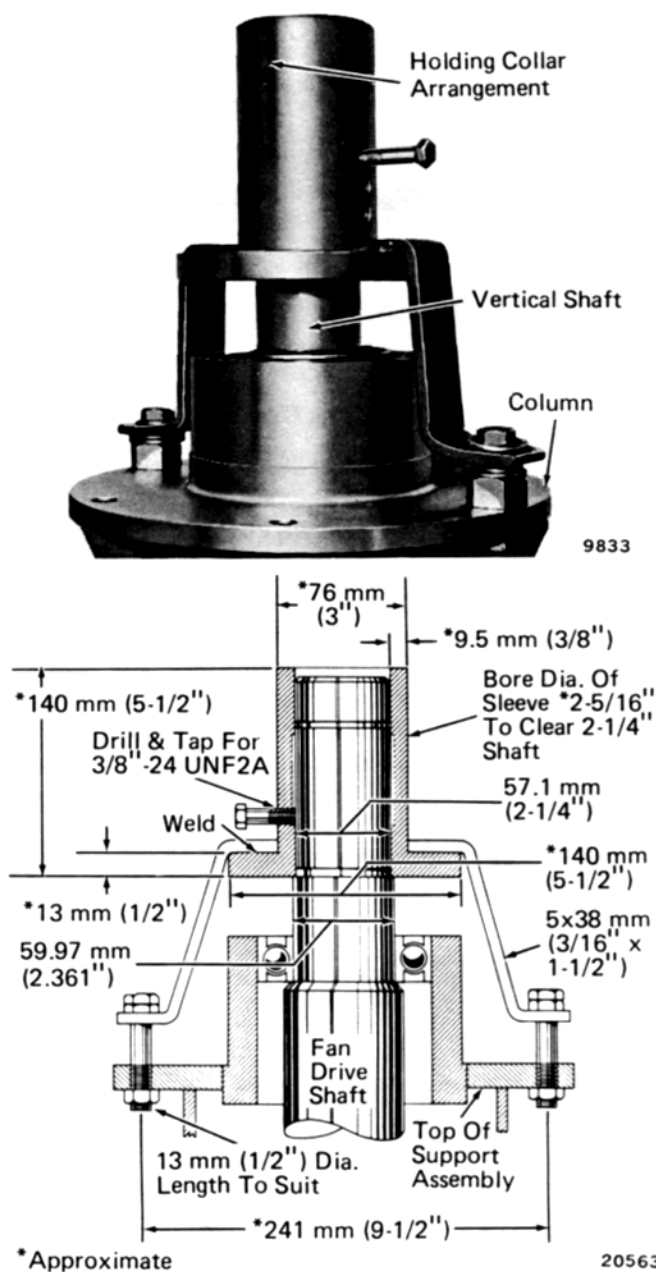

Fig. 9 - Fan Drive Shaft Collar Arrangement
7. Apply a new seal (56) to the oil seal housing (57) and install the completed assembly to the gear housing.
8. Check the fan support assembly (62) bore in the gear housing to see that it is clean and smooth. Apply the shim set (58) previously removed, if in good condition, or replace with a set made to the same thickness.
since it may be necessary to vary the thickness of shim sets (46) and (58) to maintain correct gear backlash. The gear backlash should be held within the limits etched on the gear set, which is within  $.006'' - .010''$ . Correct assembly of gears will result in heel of gear teeth being flush at point of engagement and rolling contact being in the center of the teeth which can be checked with a film of red lead. At the time of checking backlash, the vertical shaft should be held stationary. Since the fan assembly is not installed, the weight must be simulated by downward pressure on the vertical shaft. One means of accomplishing this is the collar arrangement shown in Fig. 9. The collar fits
5. Check the fan support assembly (17) bore in the gear case to see that it is clean and smooth. Apply the shim set previously removed, if in good condition, or replace with a set made to the same thickness.
6. Using a suitable hoist, raise the previously assembled fan support assembly. Mark the gear tooth having "X" with bright chalk so that it may be easily seen for mating with the main drive gear (41) (35). Being careful of the shim set, carefully lower the fan support so that upon entering the gear housing, the marked teeth of the gears mesh. Apply the mounting bolts.
7. The main drive gear backlash should be checked before any further assembly is made, since it may be necessary to vary the thickness of shim set (28) to maintain correct gear backlash. The gear backlash should be held within the limits etched on the gear set, which is within .004" - .010". Correct assembly of gears will result in heel of gear teeth being flush at point of engagement and rolling contact being in the center of the teeth, which can be checked with a film of red lead. At the time of checking backlash, the vertical shaft should be held stationary. Since the fan assembly is not installed, the weight must be simulated by downward pressure on the vertical shaft. One means of accomplishing this is the collar arrangement shown in Fig. 9. The collar fits on the shoulder of the vertical shaft, and the arms extend above the fan support flange sufficiently to enable application of two bolts to the flange to draw down the vertical shaft. Tightening the bolt in the side of the collar prevents the shaft from turning.